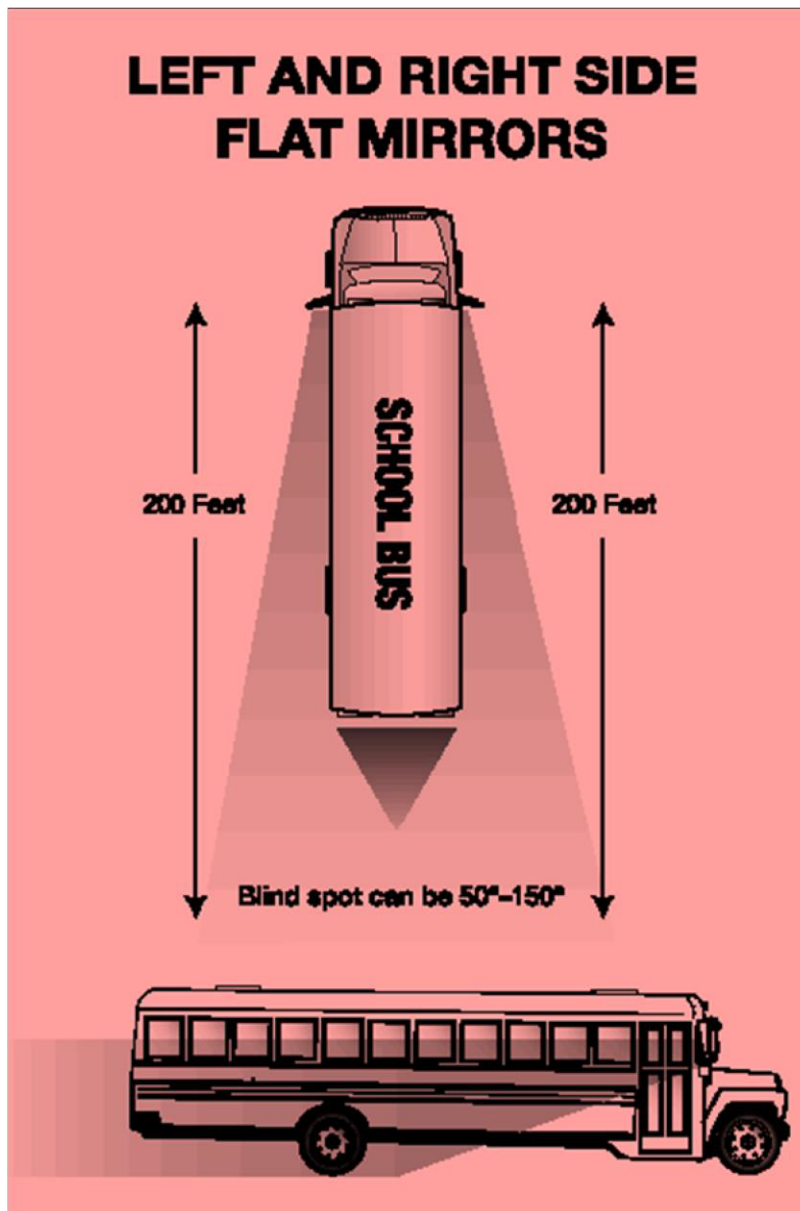

Figure 10.2
- Figure 10.2 shows how both the outside left and right-side flat mirrors should be adjusted.